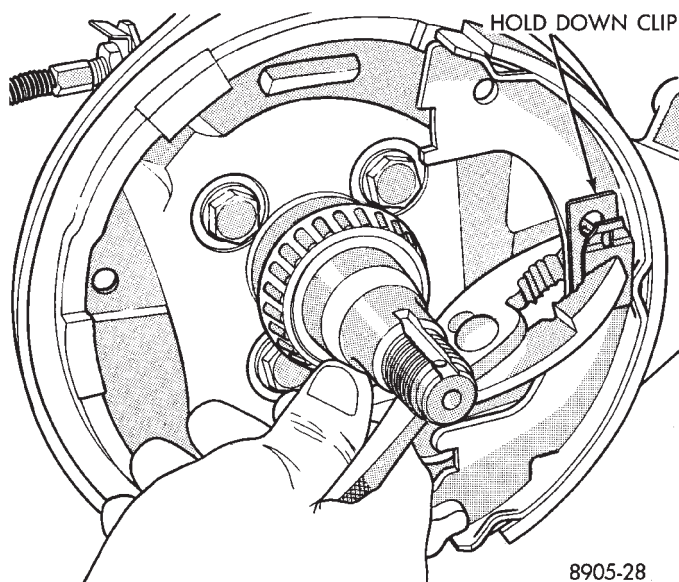

Fig. 5 Removing Rear Holddown Clip and Shoe
(11) Remove rear parking brake shoe hold-down clip. Then remove rear parking brake shoe assembly (Fig. 5).